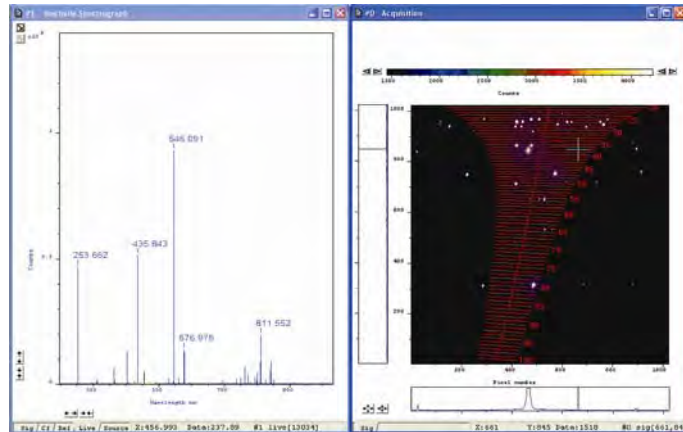

Figure 24: Live signal from a Mercury lamp before correction
- **Figure 24** shows the raw data (live) from a mercury lamp, it shows that the intensity of the 546nm line has double the intensity of the 253.7 nm line